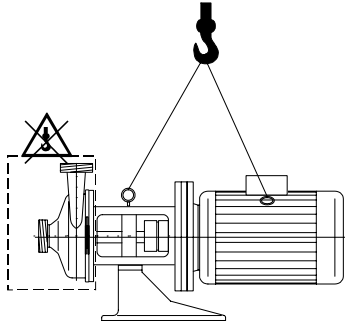

Figure 2. Transport
- If eyebolts are attached to the motor (Figure 2), attach the chain to these.